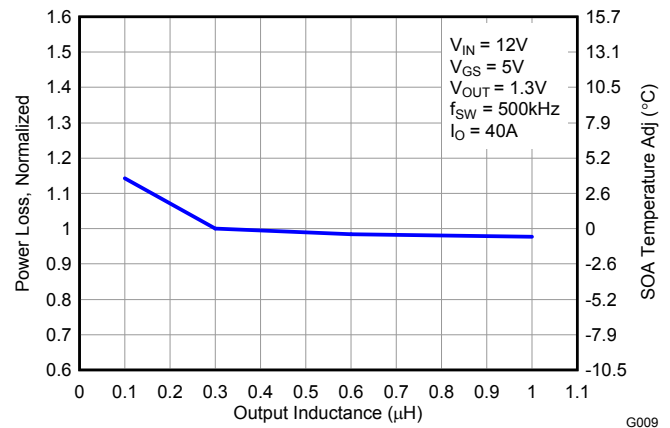

Figure 9. Normalized Power Loss vs. Output Inductance
- Normalized Power Loss for output inductor  $\approx 1.07$  (Figure 9)
- SOA adjustment for output inductor  $\approx 1.6^\circ\text{C}$  (Figure 9)